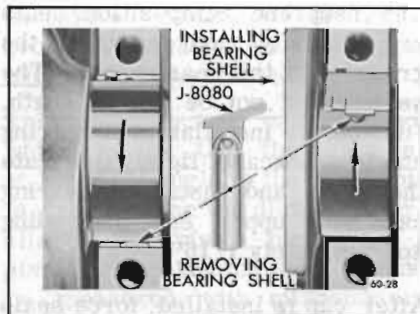

Figure 60-123—Removing and Installing Crankshaft Bearing Upper Shell
7. Remove upper bearing shell by inserting Bearing Shell Remover and Installer J-8080 in oil hole in crankshaft. Then slowly rotate crankshaft so that tool rotates the shell out of place by pushing against end without tang. See Figure 60-123.
11. Rotate bearing shell into place as far as possible by hand, then insert Installer J-8080 in crankshaft oil hole and rotate crankshaft to push shell into place. See Figure 60-123.